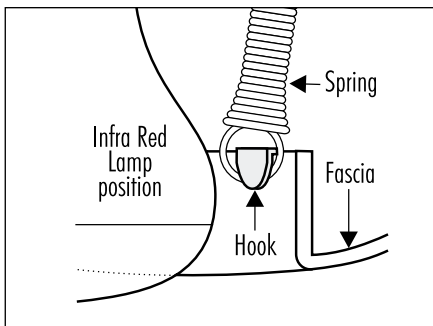

Fig. 11 – 11341
1. Model 11341, fit fascia into position and hook coil-spring onto fascia as per Fig. 11. Models 12341 and 12343 have snap fit fascia, however the lamps and centre globe must be fitted in these models prior to the fascia. The legs of the lamp surround must rest freely on the ceiling. A clearance of approximately 3-5 mm should exist between the ceiling and outer rim of surround.